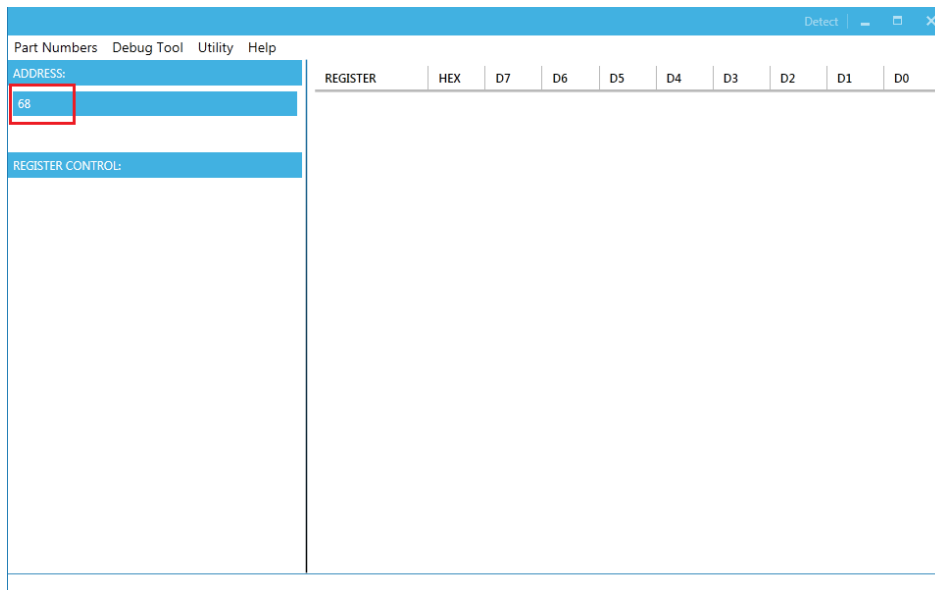

Figure 7: Appearance of Address Shows Successful Connection
- If connection is successful, the address will be listed in the “Slave Address” (see Figure 7).